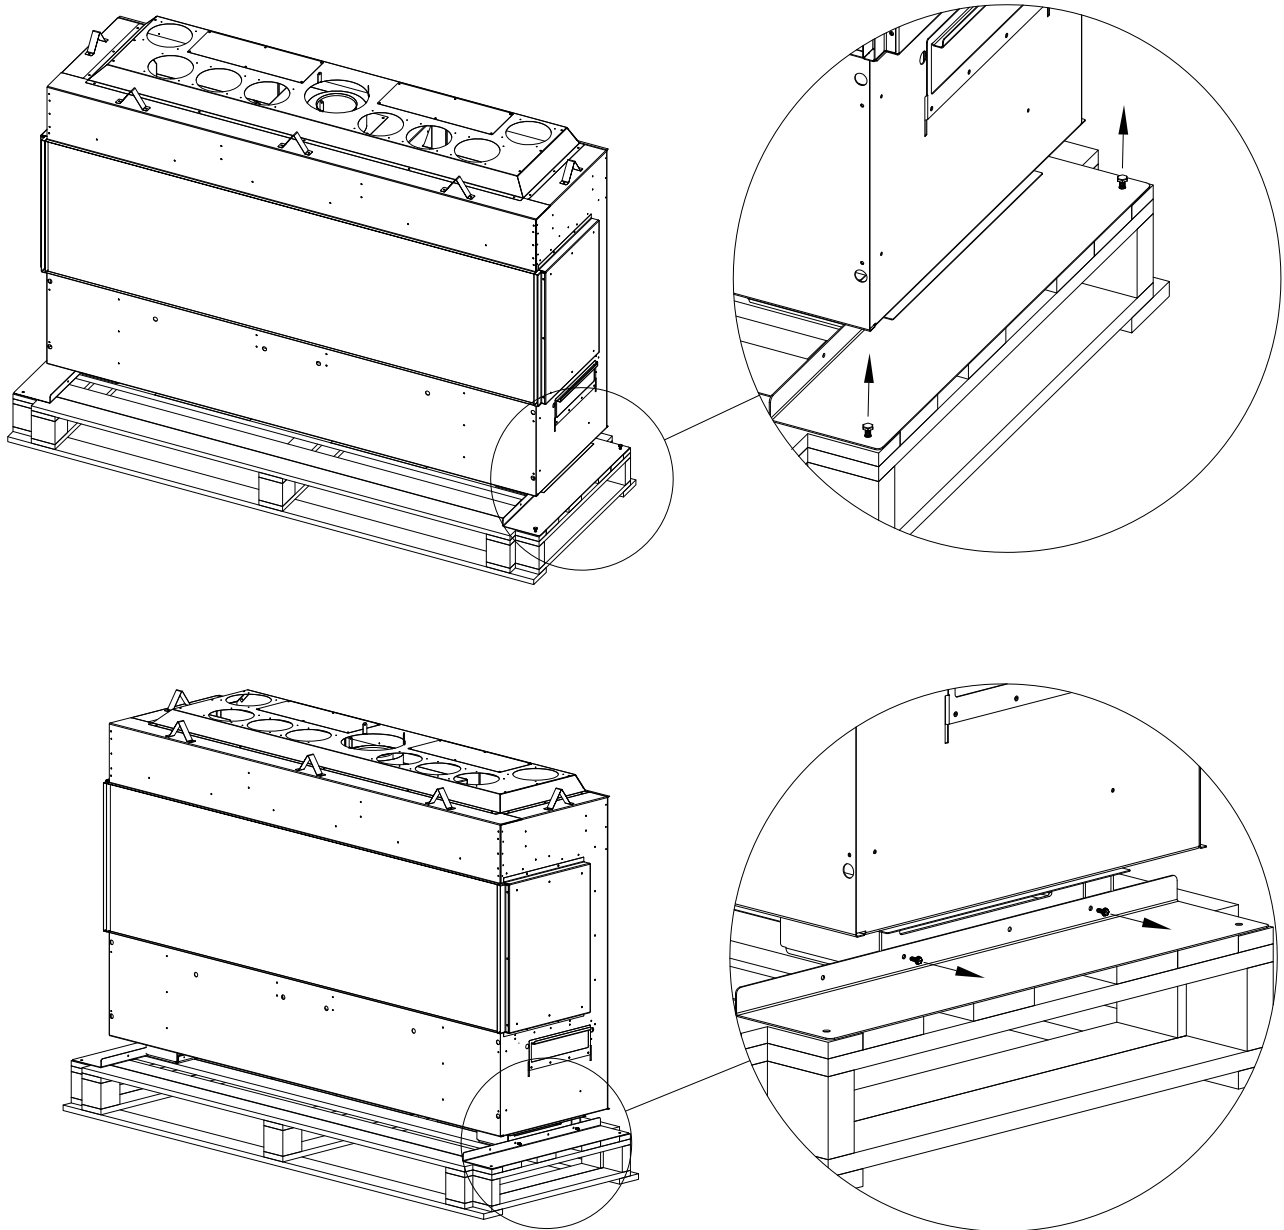

Figure 1.1 - Shipping Bracket Removal
1. Remove the screws that secure the shipping brackets down to the pallet using a 3/8" socket. See the top images in Figure 1.1.